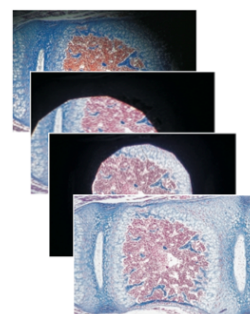

Fig 4: FD alignment
2. **Close FD** (Fig 3-1) to see edge of diaphragm, **focus** it by adjusting the condenser height (Fig 3-2), **center** if needed (screws in Fig 3-3, insert in holes Fig 3-4), **open** FD just enough to illuminate field of view (see images in Fig 4)